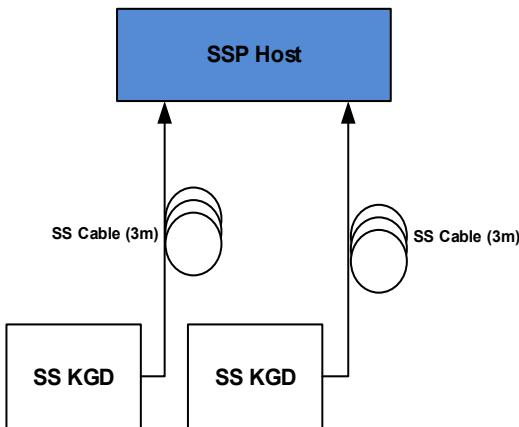

Figure 11-3: Modified Host Interoperability Interim Tree (with two 3.0 KGD's)
- o Connect a SS Asmedia KGD and TI KGD at root port (see Figure 11-3)